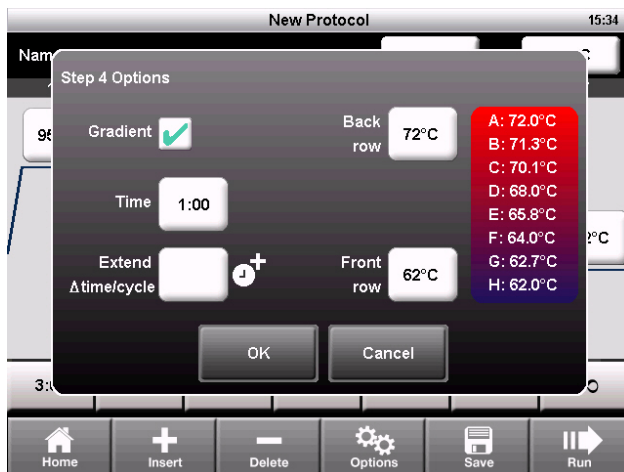

Fig. 10. The Step Options window displays the gradient temperatures.
2. Select the **Gradient** checkbox. The temperatures for each row are displayed (Figure 10).